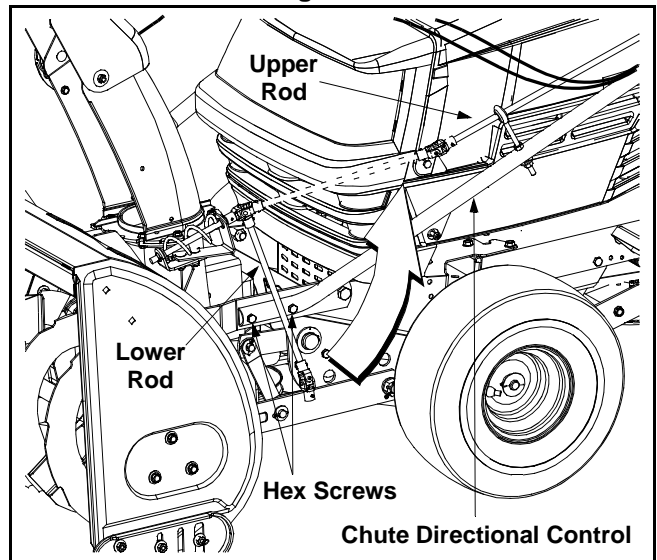

Figure 14
2. Attach the chute directional control to the upper lift link on the left side of the auger housing assembly with two hex screws and two flange nuts just removed. See Figure 14.
4. Pivot the lower chute crank rod upward and secure it to the upper chute crank rod with the $\frac{3}{4}$ -inch cotter pin provided. See Figure 14.